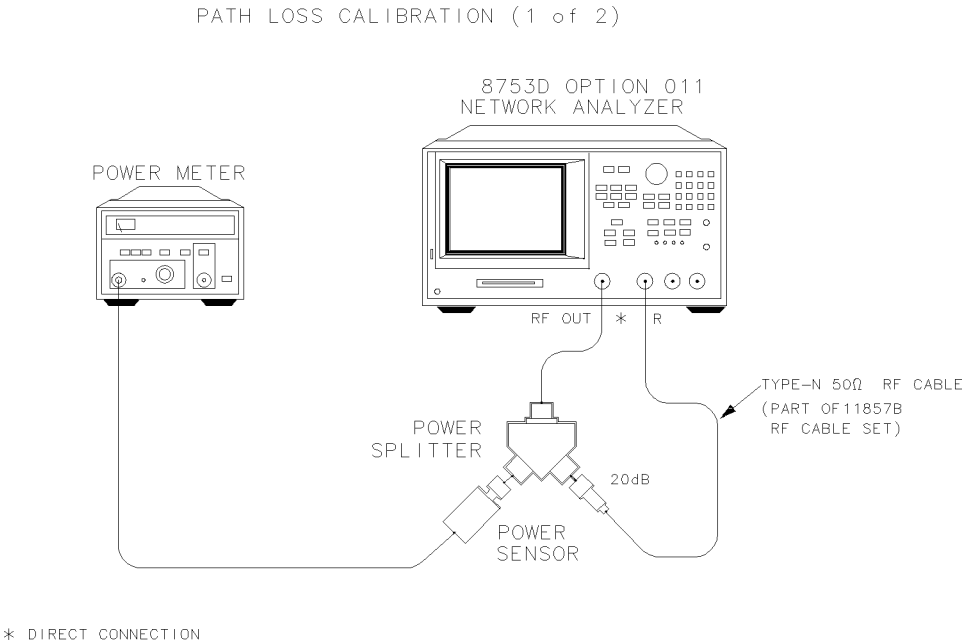

Figure 6-2. Path Loss Calibration Test Setup (#1)
- 1 Connect the equipment as shown in Figure 6-2.